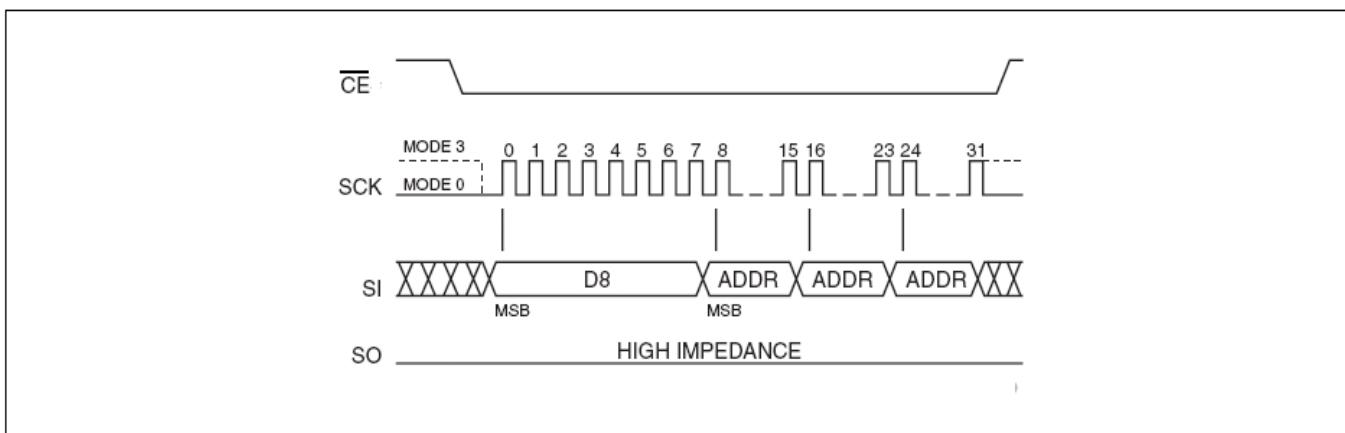

Figure 17: 64K-byte Block Erase Sequence
-A₀]. Address bits [A_{MS}-A₁₆] (A_{MS} = Most Significant address) are used to determine the block address (BA_X), remaining address bits can be V_{IL} or V_{IH}. \overline{CE} must be driven high before the instruction is executed. The user may poll the BUSY bit in the Software Status Register or wait T_{BE} for the completion of the internal self-timed Block Erase cycle. See Figure 17 for the Block Erase sequence.